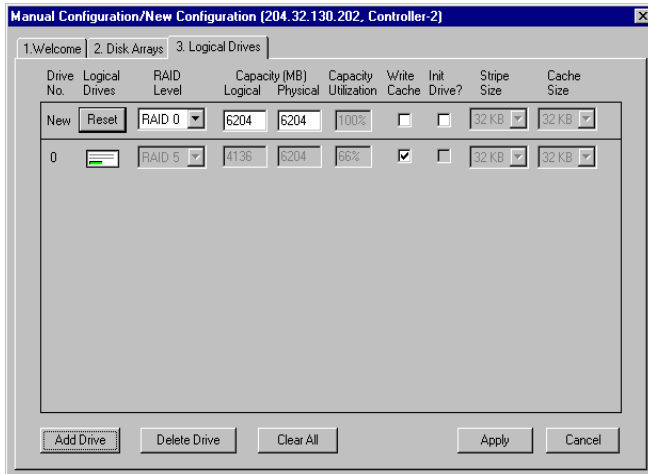

Figure 4-43. Manual Configuration - Logical Drives
5. Once you've assembled the disk array groups, click the Logical Drives tab to continue on to logical drive setup (Figure 4-43):